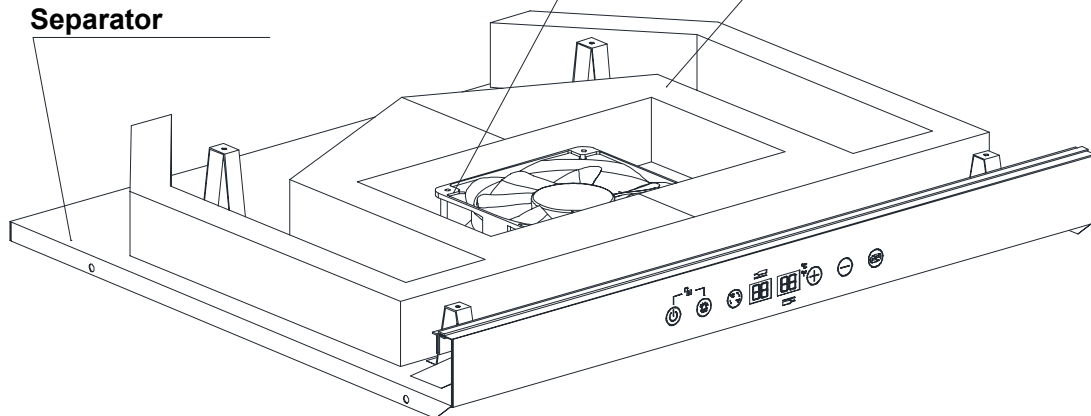

Figure 7
- Unscrew the 10 screws (No.1-6) on Upper Baffle Board and 4 (No.7-10) screws on Lower Baffle Board one by one (**Figure 7**);